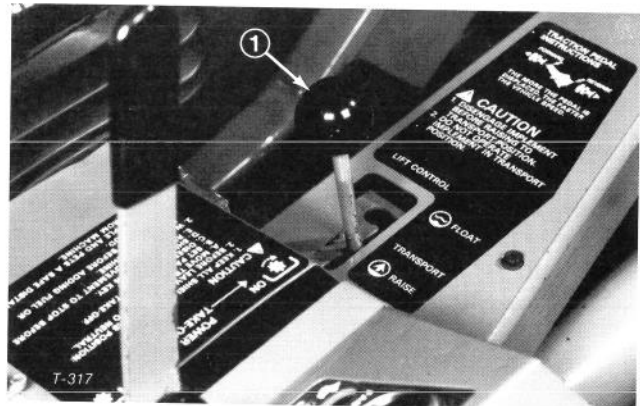
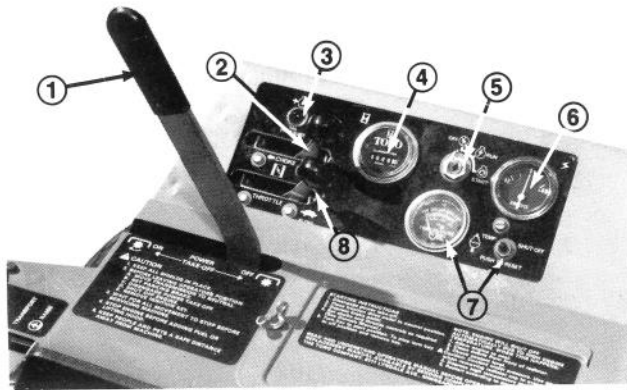

Figure 21
Figure 22
Lift Lever (Fig. 21) — The hydraulic lift lever has three positions; FLOAT, TRANSPORT and RAISE. To lower implement to the ground, move lift lever forward into notch, which is the FLOAT position. The FLOAT position is used for operation and also when machine is not in operation. To raise implement, pull lift lever backward to the RAISE position. After implement is raised, allow lift lever to move to the TRANSPORT position. Normally, implement should be raised when driving from one work area to another, except when descending steep slopes.
PTO Lever (Fig. 22) — The PTO lever has two positions; ON, engage and OFF, disengage. Slowly push PTO lever fully forward to ON position to start the implement or cutting unit blades. Slowly, pull lever backward to OFF position to stop implement operation. The only time PTO lever should be in the ON position is when implement or cutting unit is down in operating position.
Oil Pressure Warning Light (Fig. 22) — The oil pressure warning light will glow and a buzzer will sound when oil pressure in engine drops below a safe level. If low oil pressure ever occurs, stop engine and determine the cause. Repair the damage before starting the engine again.
Hour Meter (Fig. 22) — The hour meter registers accumulated hours of engine operation. Use the hour meter to determine intervals for service maintenance and lubrication.
Ammeter (Fig. 22) — Ammeter shows charge rate of the battery by the alternator. When engine is running, there usually is a slight charge, unless engine is idling slowly. Needle will point to 0 when battery is fully charged. By contrast, alternator is not charging the battery when needle points to (-) negative side of ammeter, and if this happens, repair the charging system to prevent discharge of the battery.
Temperature Switch/Gauge and Reset Button (Fig. 22) — The temperature switch/gauge registers the temperature of the coolant in the cooling system. If temperature of coolant gets too high the engine will shut off automatically. When this happens, rotate ignition key to OFF. Automatic shut-off of the engine usually results from debris on front of screen or radiator, which reduces air flow. After cleaning outside of screen and radiator or repairing some other damage, press the reset button and start the engine.
Ignition Switch (Fig. 22) — The ignition switch, which is used to start and stop the engine, has three positions; OFF, RUN and START. Rotate
Choke (Fig. 22) — To start a cold engine, close carburetor choke by moving choke control fully forward. After engine starts, regulate choke to keep engine running smoothly. As soon as possible, open the choke by pulling it backward.
Throttle (Fig. 22) — Throttle is used to operate engine at various speeds. Moving throttle forward increases engine speed — FAST; backward decreases engine speed — SLOW. The throttle regulates the speed of the cutter blades or other implement components and, in conjunction with traction pedal, controls ground speed of the traction unit.
1. Insure parking brake is set, PTO lever is in OFF position (Fig. 22) and lift lever is in TRANSPORT or FLOAT position (Fig. 21). Remove foot from traction pedal and assure it is in neutral.
2. Move throttle control (Fig. 22) to SLOW position.
3. To start engine, move choke lever (Fig. 22) fully forward.
4. Insert key into ignition switch (Fig. 22) and rotate it clockwise to START position. Release key immediately when engine starts and regulate choke to keep engine running smoothly.